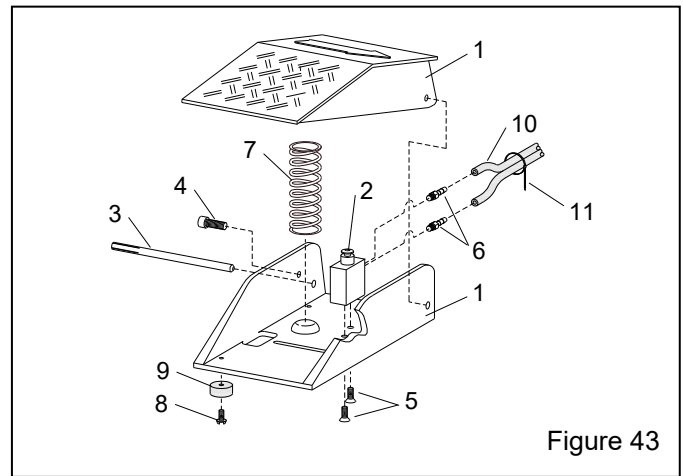

Figure 43
9.5 Foot-Pedal Assembly – Figure 43